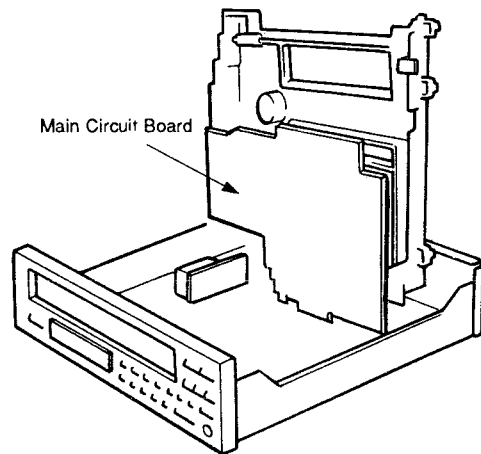

Fig.11
12. Now the Main Circuit Board is ready for checking. When it is necessary to check the back side (foil side) of the Main Circuit Board, remove 2 PCB Supports and 1 screw, and then place it upright as shown in Fig. 11.